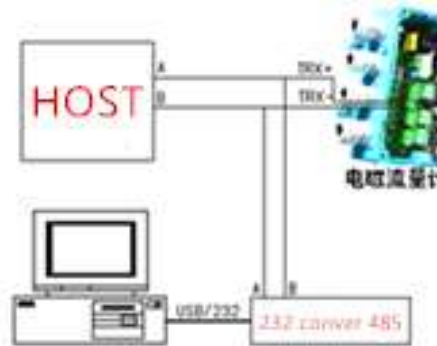

Figure 6-4 Example Connection Diagram of Serial Port Debugging Assistant
1. Connect the main station equipment to the flow meter correctly, and then connect it in parallel to the system using USB (or 232) to 485 port, as shown in Figure 6-4.